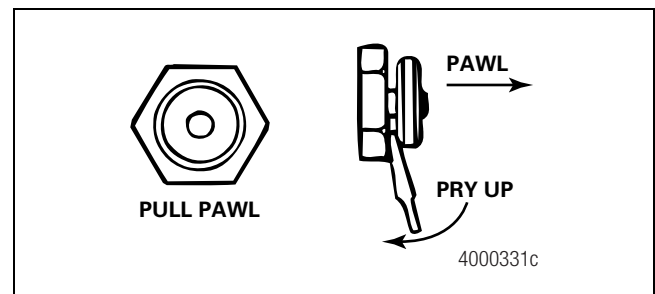

Figure 7.8
1. Disengage the pull pawl. Use a screwdriver or equivalent tool to pry the pull pawl at least 1/32-inch (0.8 mm) to disengage the teeth from the actuator. Figure 7.8.